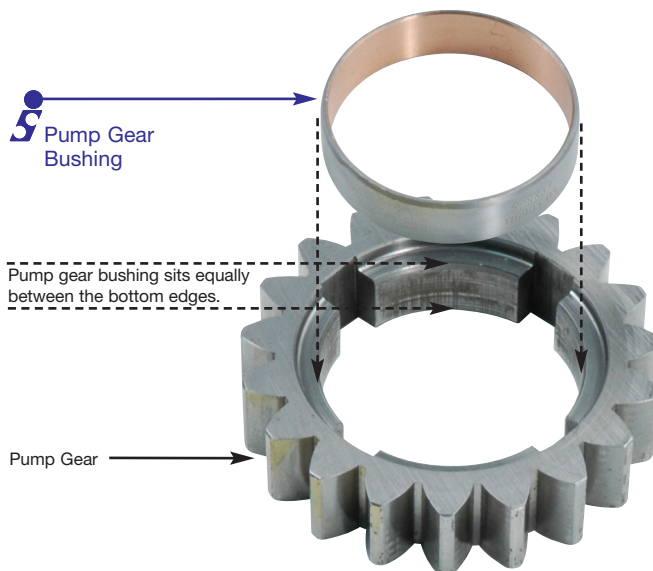

Figure 2
2. Install the pump gear bushing so that it sits equally between the bottom edges of both chamfers (see Figure 2).